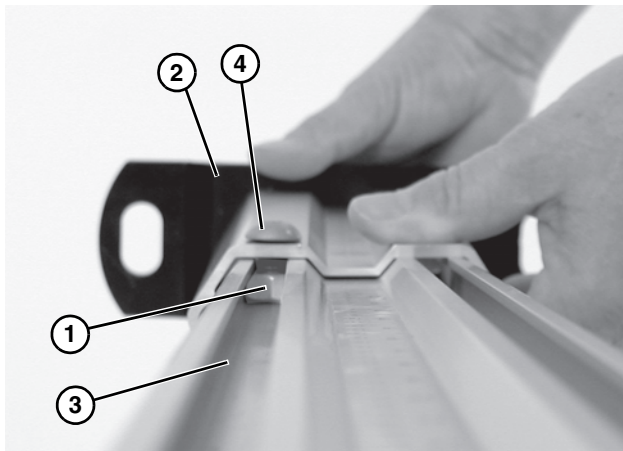

Figure 4
Failure to secure screws (Figure 4, item 4) may cause conveyor sections to drop down causing severe injury.
TIGHTEN SCREWS (Figure 4, item 4) AFTER ADJUSTMENT.
2. Slide (2) hex nuts (Figure 4, item 1) along with boot assembly (Figure 4, item 2) into outer slots of stand assembly (Figure 4, item 3). Tighten button screw (Figure 4, item 4) to 150 in-lb (17 N-m).